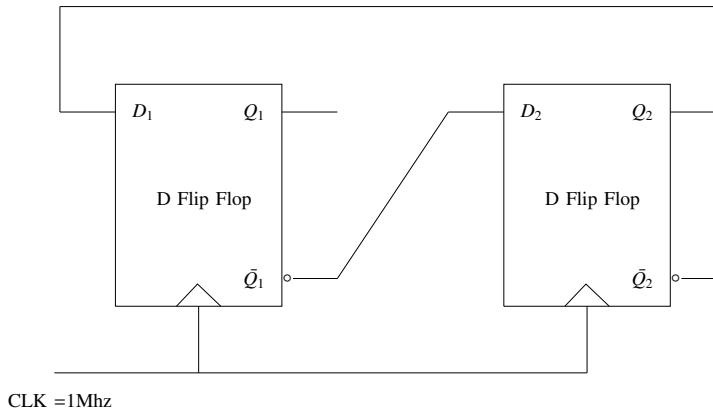

Fig. 5.9
9. In a given sequential circuit in Fig. 5.9, initial states are $Q1 = 1$ and $Q2 = 0$. For a clock frequency of $1MHz$, the frequency of signal $Q2$ in kHz, is (rounded off to the nearest integer)